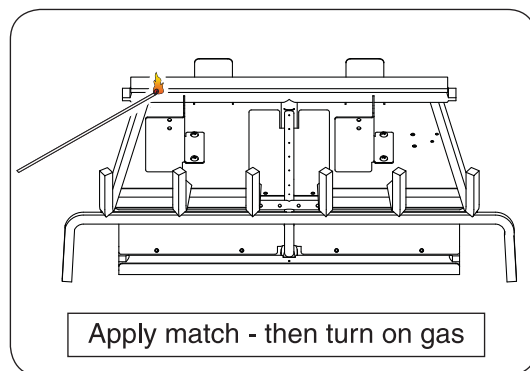

Fig. 17-1
- 3. Lay a lighted match on the center of the top burner (**do not hold the match in your hand**) or use a lighted long-stem match/long-necked butane lighter (Fig. 17-1).